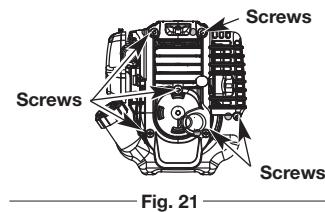

Fig. 21
1. Remove the six (6) screws on the back of the engine cover with a Flat-head or T-25 Torx screwdriver (Fig. 21).